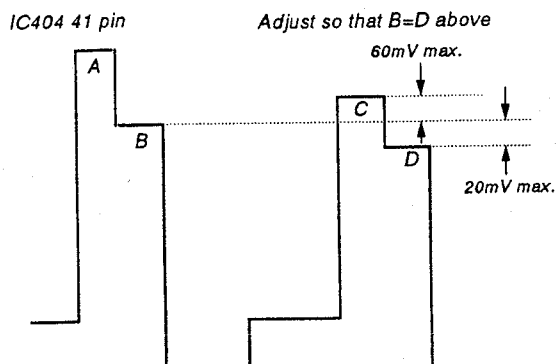

Fig. 24
- 4) Adjust **R-Y LEVEL PAL** so that the tops of the waveform line up as in the diagram below. (Fig. 24)